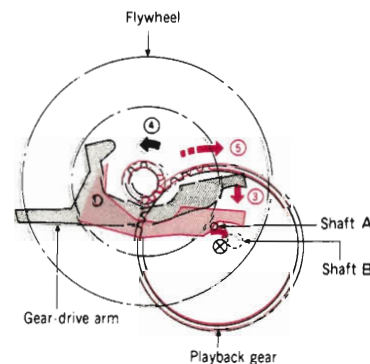

Fig. 2
At the same time, the motor switch turns "ON" by means of the movement of the lock plate, the motor starts and the flywheel rotates in the direction of arrow ④ (Fig. 2).
- 2) As the gear-drive arm slides to the position shown in color by Item 1) as shown in Fig. 2, the shaft A, which is attached to the playback gear moves along the inclined surface of the gear-drive arm to make the playback gear rotate in the direction of arrow ⑤ so that 1 or 2 teeth of the gear engage the gear of the flywheel.